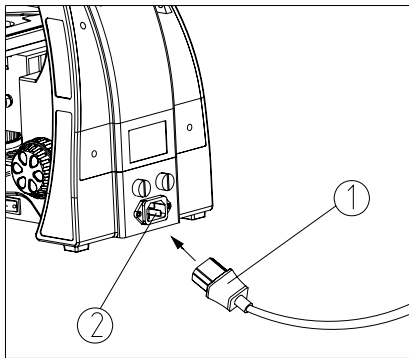

Fig. 6
2. Insert the connector① of power cord into the power socket②, and make sure it connects well (see Fig. 6).